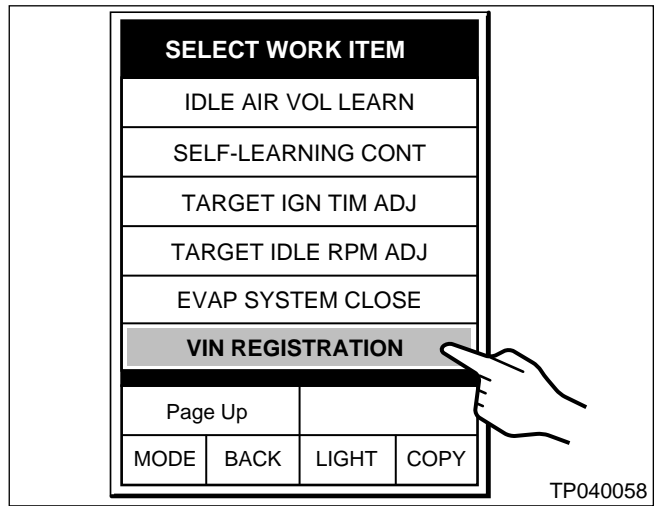

Figure 10
- c. Scroll down and select **VIN REGISTRATION** on the "Select Work Item" screen. See Figure 10.